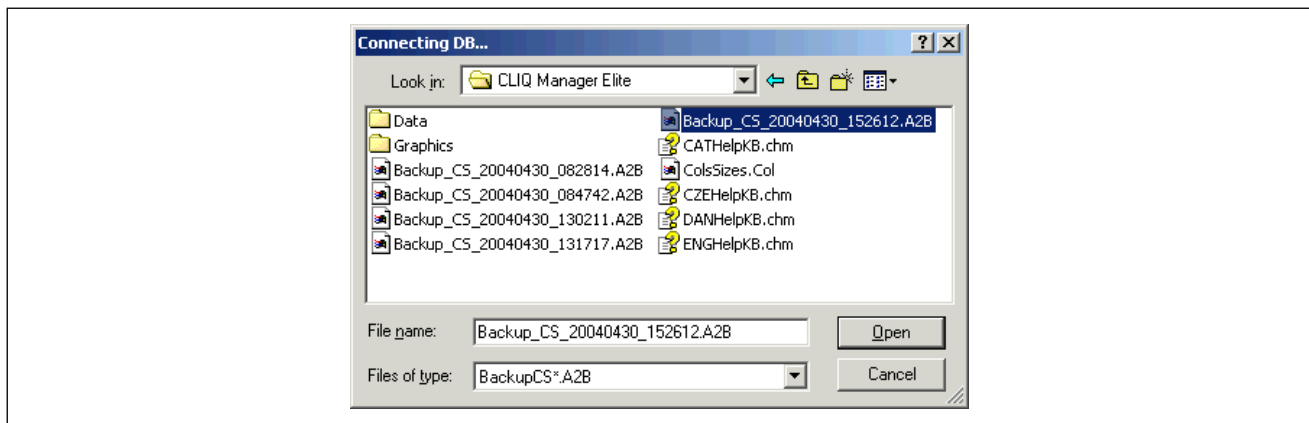

Fig. 6.2/14: “Connecting DB...” window
**Note:** If you have assigned a password to the backup file, the “Write password or phrase” window opens (see fig. 6.2/10). Enter the new password in this input box.